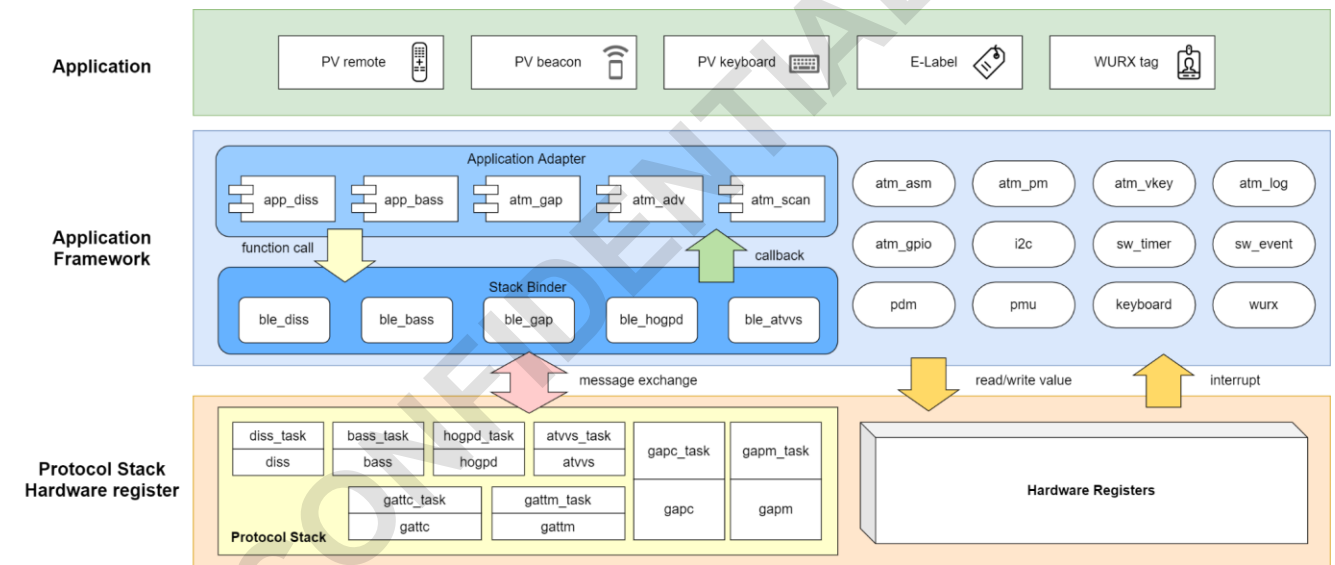

Figure 1 - ATM2/3 software architecture
- Figure 1 - Application Framework Architecture
Figure 1 shows ATM2/3 software architecture.